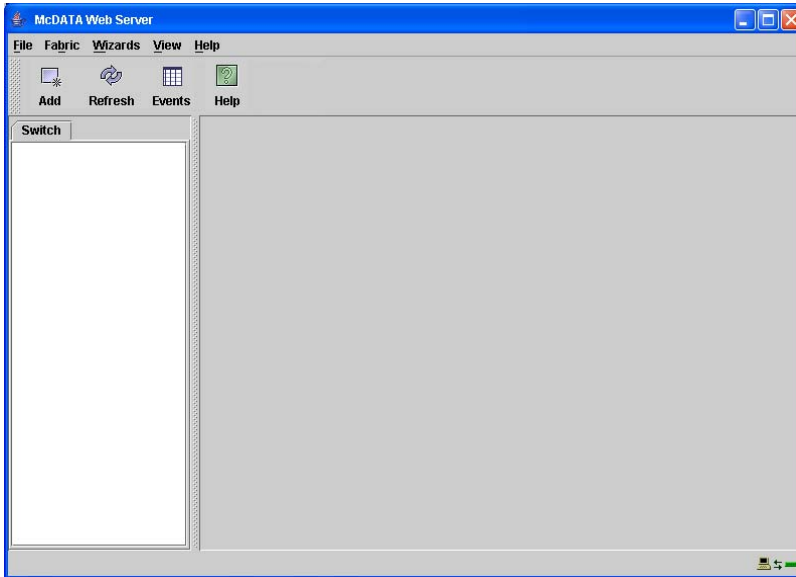

Figure 2 McDATA Web Server window
- Select **Start Application Without Specifying a Fabric** to open the McDATA Web Server window shown in Figure 2. Click **Add** to open the Add a New Fabric dialog, which prompts you for a fabric name, IP address, account name, and password. Refer to "Adding a fabric" on page 39.